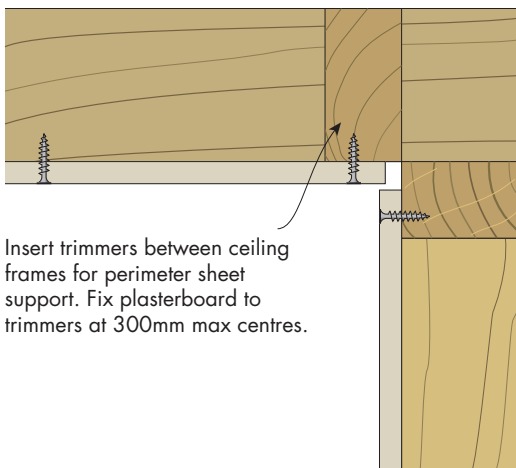

FIGURE 10 Perimeter Trimmers
- Provide additional framing around perimeter by inserting trimmers between ceiling frames or installing steel angle. [Refer to *Figures 10 and 11*]